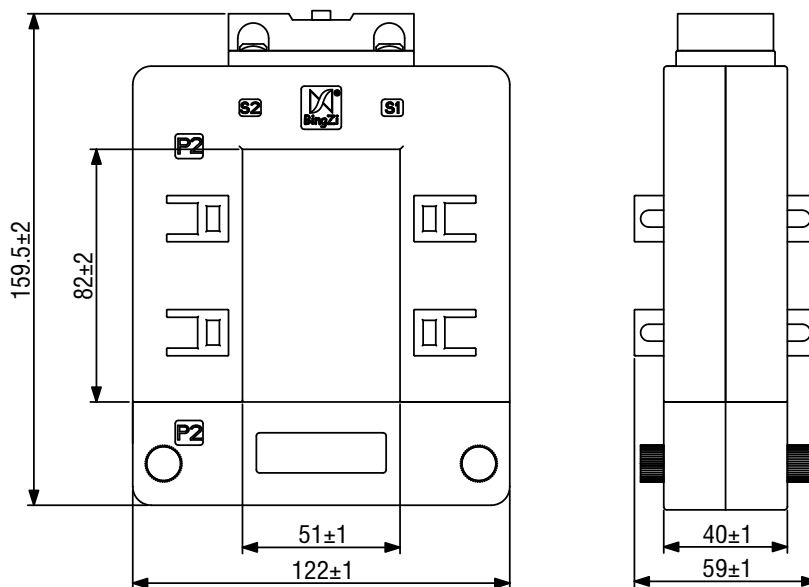

Fig 1
- ① Insulation resistance: $>1000\text{M}\Omega$ in normal condition;
- ② Insulation withstand voltages: 6KV $50\text{Hz}/1$ min;
- ③ Fire retardancy: In conformity with UL94-V0 .
- ① The outline drawing and installation dimension are shown in Figure 1